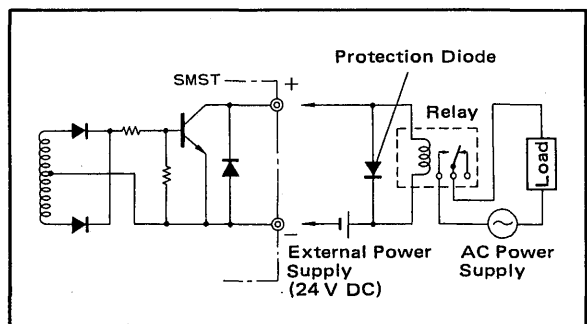

Figure 3-4. Connections for Switching an Alternating Current (AC) Load.
- o Transistor contacts cannot be used directly to switch (open and close) alternating current (AC) loads. Relays (or similar devices) must be used between the transistor switch and the load. (See Figure 3-4).